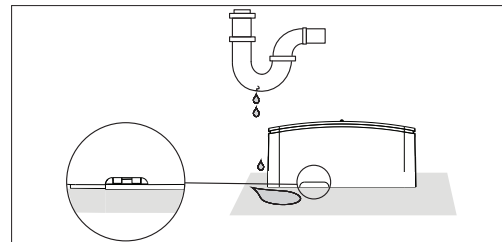

Figure 4.1: Water Detector orientation
3. Place the detector horizontally on the floor as shown in *Figure 4.1*.
5. Place the detector on the horizontal surface of the area to monitor for water. Refer to *Figure 4.1*.